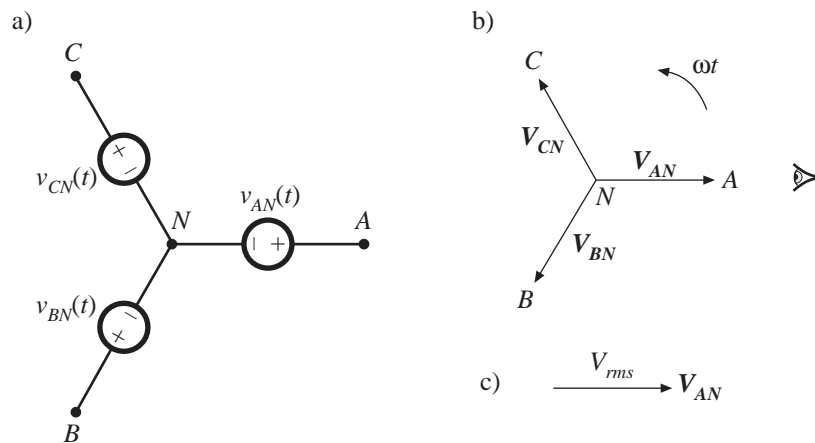
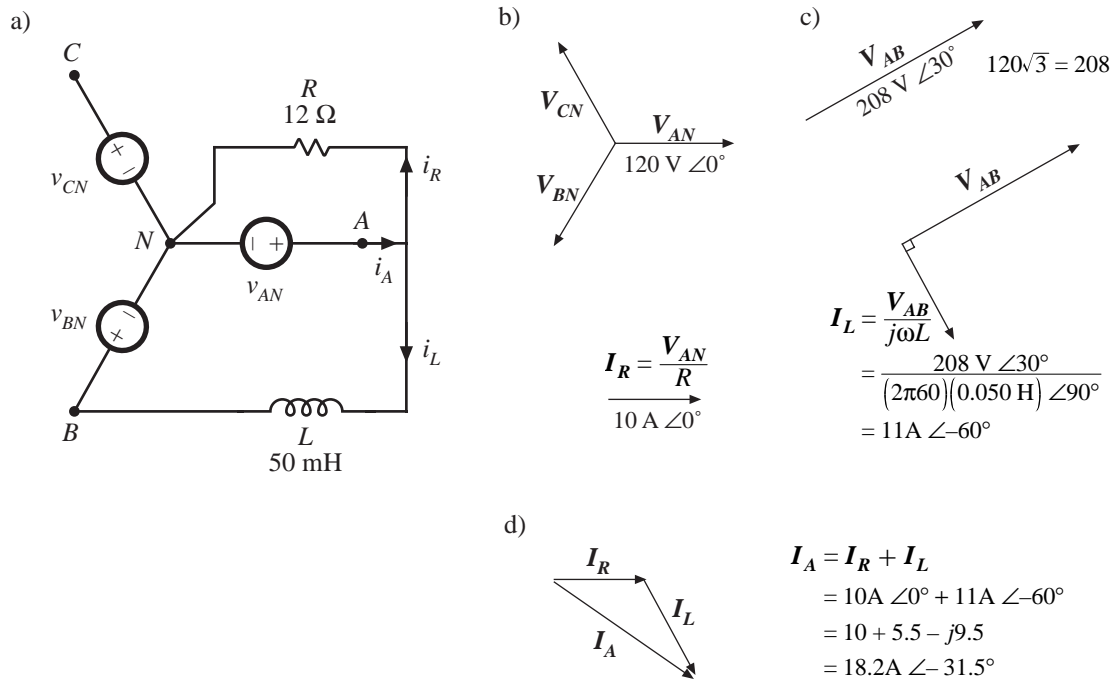

Fig. 1 Three-phase source: (a) schematic, (b) phasor diagram, (c) the phasor V_{AN} .
Fig. 3 Current phasor example.
Figure 1 illustrates the circuit and phasor diagram of a basic three-phase ac source. The circuit of Fig. 1(a) contains a neutral point N that is normally connected to Earth ground. The three phases (or lines) are labeled A , B , and C . The voltage sources produce sinusoids having rms values V_{rms} , which are shifted in phase by 120° and 240° . These voltages can be expressed in the time domain as follows:
In the power area, phasor magnitudes are labeled using rms values as in Fig. 1(c). These voltages can be represented by the following phasors:
Figure 1 and Eq. (1) also illustrate the naming convention commonly used for the voltages of three-phase systems. Voltages are designated using two subscripts. The voltage at the point designated by the first subscript is measured with respect to the point denoted by the second subscript. Hence, \mathbf{V}_{AN} is the voltage from line A to the neutral point; the phasor representing \mathbf{V}_{AN} is drawn with the arrowhead at A and the tail at N. Note that $\mathbf{V}_{AN} = -\mathbf{V}_{NA}$.
Any signal can be arbitrarily chosen as the zero-phase reference; the phases of other signals are then represented with respect to this zero phase reference. In Fig. 1(b) and Eq. (1), the line-to-neutral voltage \mathbf{V}_{AN} is chosen as the zero phase reference. As time increases, the phasors rotate in the counterclockwise direction, with speed ω . An observer standing to the right of the phasor diagram would see phasor \mathbf{V}_{AN} rotate by, followed by phasor \mathbf{V}_{BN} , followed by phasor \mathbf{V}_{CN} . This is called *ABC* phase sequence. The opposite (*CBA*) phase sequence is obtained when the phasors rotate in the clockwise direction or when two of the phases (such as B and C) are interchanged. Throughout the remainder of this discussion, *ABC* phase sequence is assumed.
An example that illustrates construction of current phasors is given in Fig. 3. A resistor is connected between line A and neutral N, while an inductor is connected between lines A and B. It is desired to construct the phasors representing the currents in the resistor, inductor, and the phase A line current. The 60 Hz voltages are assumed to be as in Figs. 1 and 2, with rms voltage $V_{rms} = 120 \text{ V}$. The line-to-line voltages have magnitude $120\sqrt{3} = 208 \text{ V}$. The current I_R through the 12Ω resistor is given by Ohm's law:
The current through the resistor is in phase with the applied voltage, the line-to-neutral voltage V_{AN} . The phasor I_R is illustrated in Fig. 3(b).
The line-to-line voltage \mathbf{V}_{AB} leads the line-to-neutral voltage \mathbf{V}_{AN} by 30° . The inductor current lags this applied voltage by 90° . Hence, the phase of \mathbf{I}_L is -60° . Construction of \mathbf{I}_L is illustrated in Fig. 3(c).
Construction of \mathbf{I}_A is illustrated in Fig. 3(d).